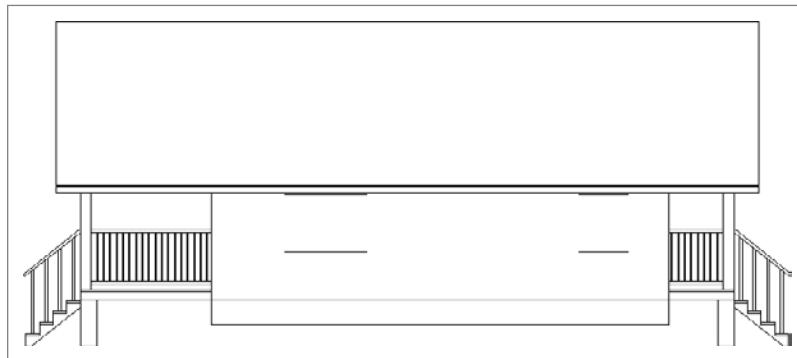

FIGURE 10.39 Elevation view after repairing the lower roofline using the `JOIN` command
4. Repeat step 3 for the two remaining roof lines. After you've joined each of the roof lines into three individual segments, your view should look like Figure 10.39.